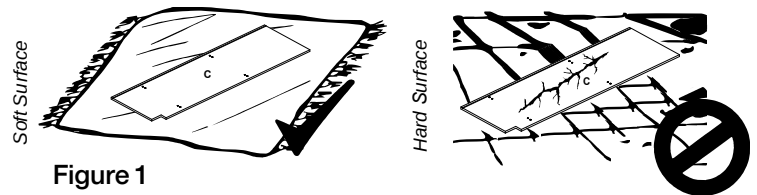

Figure 1
1.Unpack box & identify pieces on Page 2. Place side panel (C) onto a soft work surface. (Figure 1)